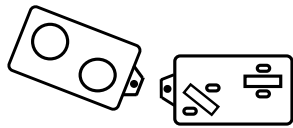

Figure 2: Battery tabs shown
1. Holding the transmitter with the buttons face down, remove the case back by using the blade of a small screwdriver to pry it open (see Figure 2).